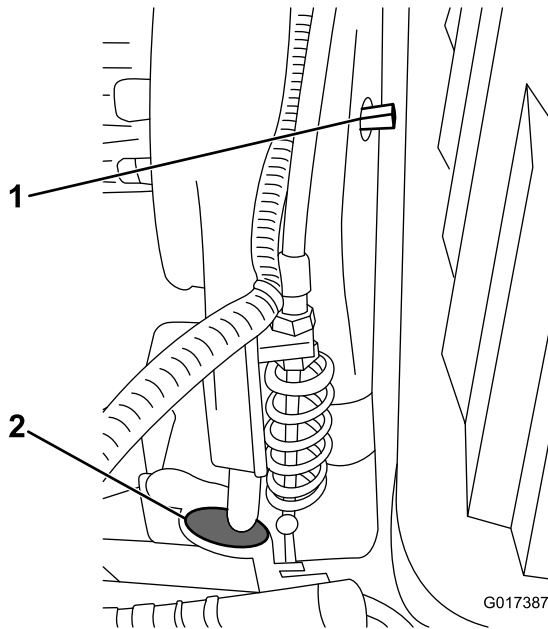

Figure 49
Remove the rubber plug (Figure 49) from the hole in the front of the transmission if you need to access the reel clutch.
The transmission belt is tensioned by a spring-loaded idler pulley. If you must engage or disengage the belt tension, use a 3/8-inch wrench to rotate the engage/disengage shaft (Figure 49) to the desired position. Rotating the shaft 1/4-turn (90°) clockwise disengages the idler from the belt (Figure 50).
- Note:** Remove the rubber plug (Figure 49) from the hole in the front of the transmission to view reel clutch.